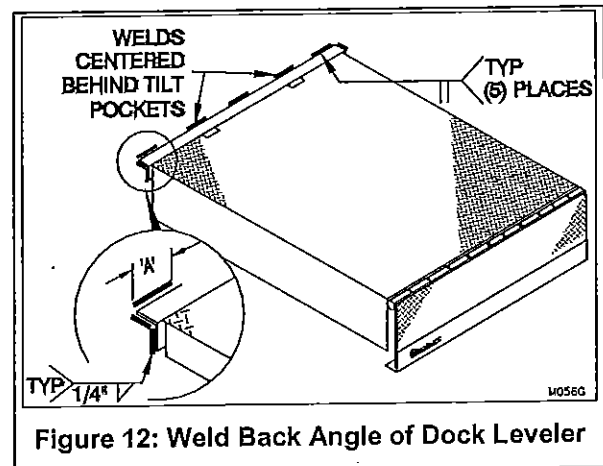

Figure 12: Weld Back Angle of Dock Leveler
4. Weld back angle of dock leveler to rear curb angle as shown in Figure 12, page 7 using the welding reference and notes on page 13 as a guide.
16. Complete welding the back angle of the dock leveler to the rear pit curb angle as shown in Figure 12, page 7.